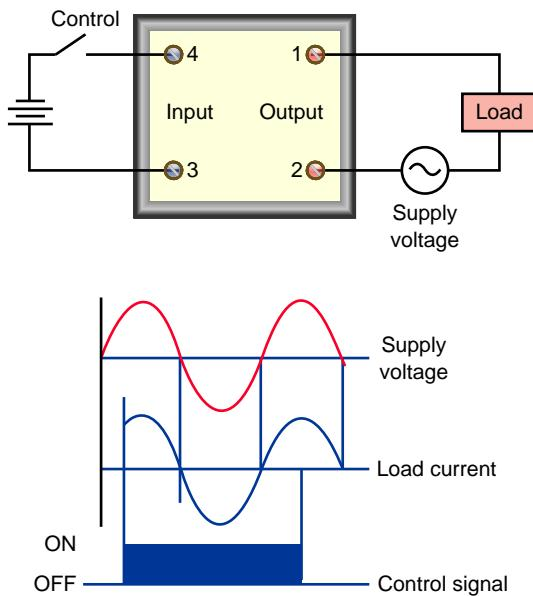

Figure 7-13 Zero-switching SSR.
- **Zero-switching relay.** A *zero-switching relay* is designed to turn on an AC load when the control voltage is applied and the voltage at the load passes through zero. The relay turns off the load when the control voltage is removed and the current in the load crosses zero. This allows resistive loads such as lamp filaments to last longer because they are not subjected to high-voltage transients from switching AC voltage and current when the sine wave is at a peak. Figure 7-13 shows a simplified diagram of a zero-switching SSR.